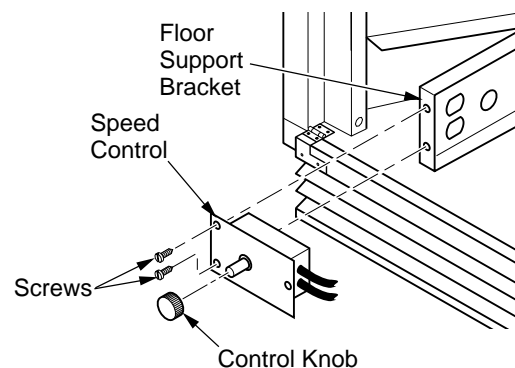

Figure 20 - Attaching Speed Control (VTGF33NR/VTGF33PR Shown)
10. Place control knob provided on plastic control shaft of speed control (see Figure 20).
11. Mount the speed control onto the front leg of the left floor support bracket using 2 screws provided (see Figure 20).